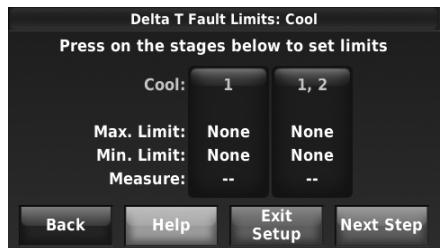

Fig. 18.
- Press Stage 1 to set the limits and run time (see Fig. 18). Use the saved test data located in the upper right corner of the screen to set the Delta T Minimum and Maximum Limits and the Run Time (see Fig. 19).